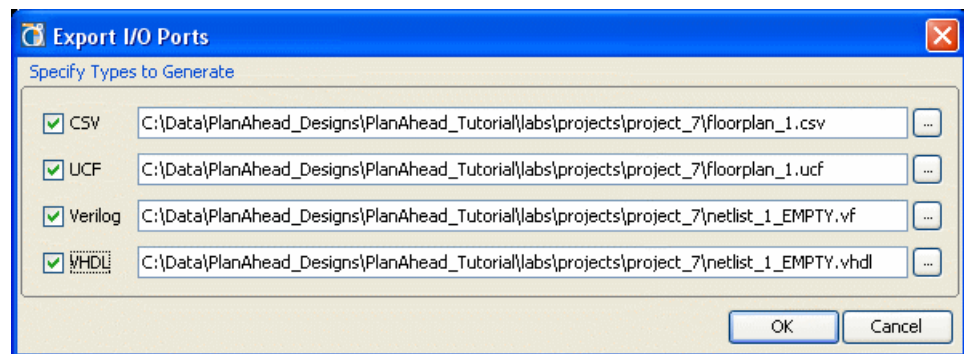

Figure 8-29: Exporting I/O Port Lists
1. To export the I/O Ports list information, select **File > Export > Export I/O Ports**, as shown in Figure 8-29.